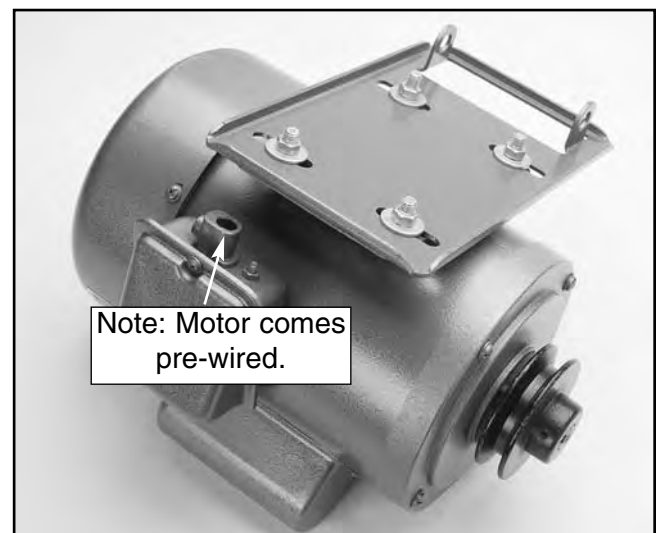

Figure 13. Attaching the motor plate.
1. Turn the motor upside down and attach the motor plate using M8-1.25 x 25 hex bolts, 8MM flat washers and M8-1.25 hex nuts as shown in **Figure 13**. Finger-tighten only.